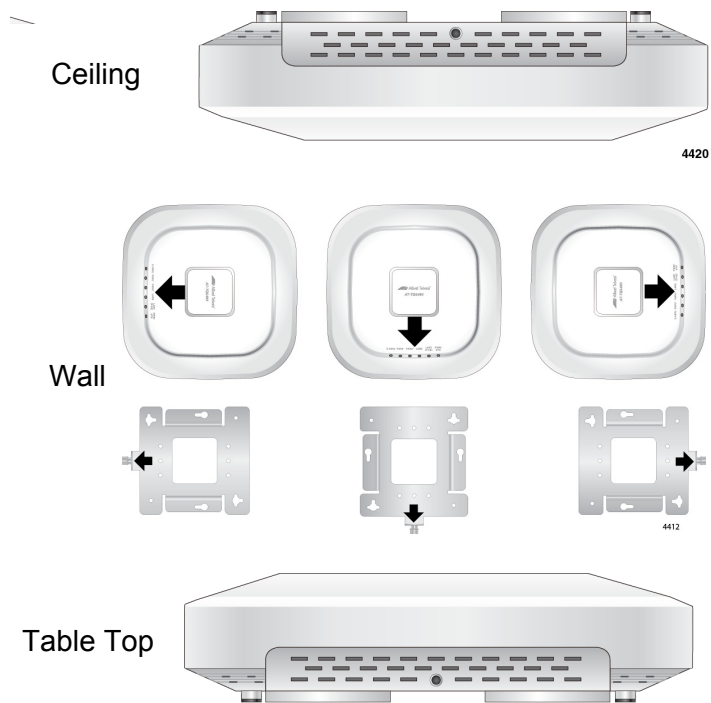

Figure 4. Acceptable Orientations on a Tabletop, Wall and Ceiling Installation
- ❑ Refer to Figure 4 for the acceptable orientations for the table top, wall and ceiling installations.
1. Choose an allowable orientation of the access point from the examples shown in Figure 4 on page 33.
When installing the mounting bracket, ensure that its thumb screw is oriented in the same direction as the front of the access point chassis so that your intended orientation of the chassis is achieved after installation. Refer to the arrows in Figure 4 on page 33.